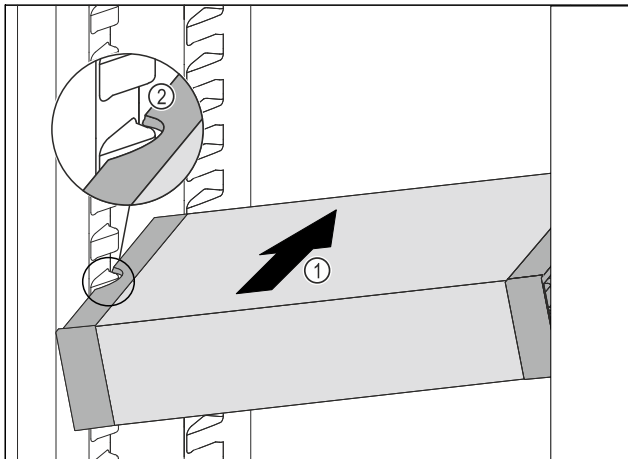

Fig. 101
- Insert the VarioSafe into the fridge section at an angle Fig. 101 (1) until the recesses in the side Fig. 101 (2) of the VarioSafe are at the level of the support rib in the fridge section.